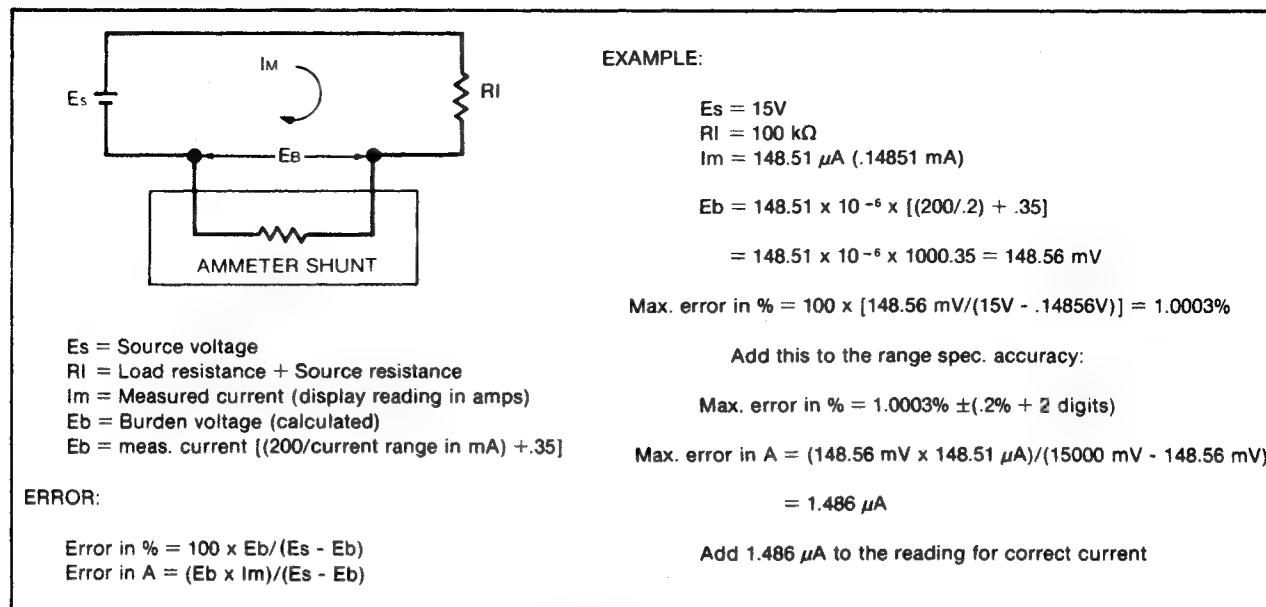

Figure 2-11. Calculating Burden Voltage Error
**2-55.** These voltage drops can affect the accuracy of the current measurement if the current source is unregulated and the resistance of the shunt and fuses of the multimeter exceeds 1/1000 of the source resistance. If the multimeter burden voltage is significant, the formula in Figure 2-11 can be used to calculate the burden voltage error.